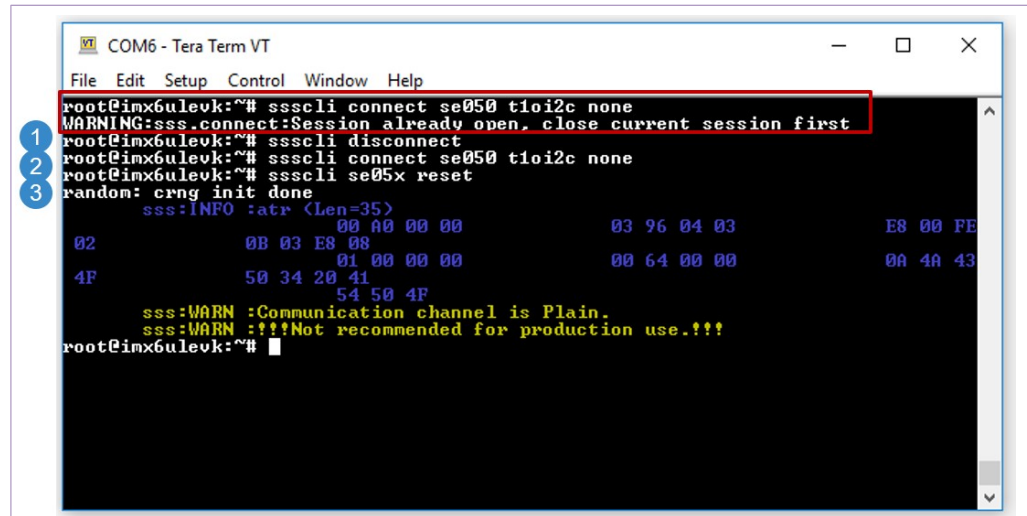

Figure 16. Close an already opened session
Note: If you see the following message: `WARNING:sss.connect:Session already open, close current session first` message as shown in Figure 16, it means that you have a session open. To close it, send: (1) > ssscli disconnect and then send once again (2) > ssscli connect se050 vcom <COM_NUMBER> and later (3) > ssscli se05x reset.